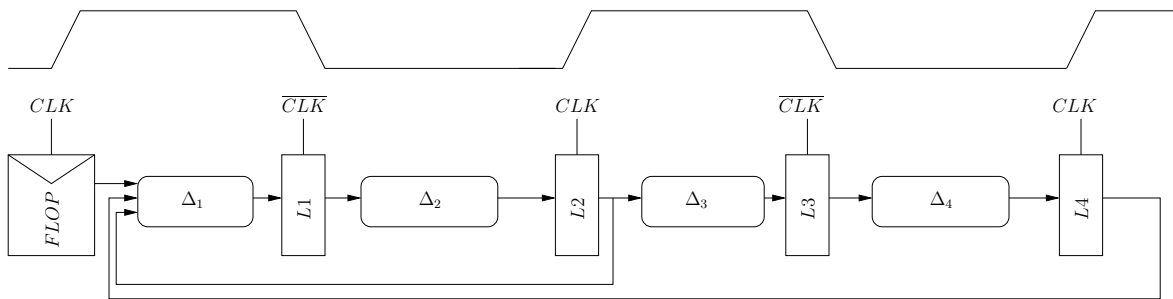

Figure 5: Sequential path-2
11. For the path show in Fig. 5, determine the minimum clock period at which the circuit will operate correctly for each of the following logic delays. Assume clock skew is zero and and that latch delays are accounted for in the propagation delay  $\Delta$ 's.